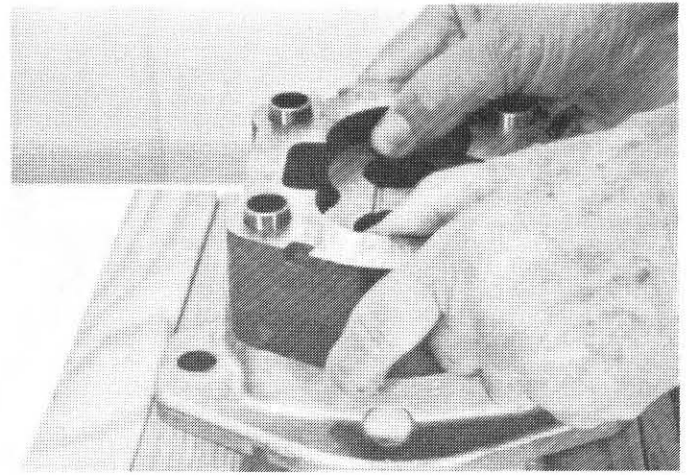

FIG. 22
31. Install o-rings (12) in the pressure plate (13). With the trap (small oblong hole) in the pressure plate facing toward the discharge side of the gear plate, and the bronze side facing up, slide the pressure plate down the gear bores until it rests against the o-ring and back-up ring. (Fig. 22)